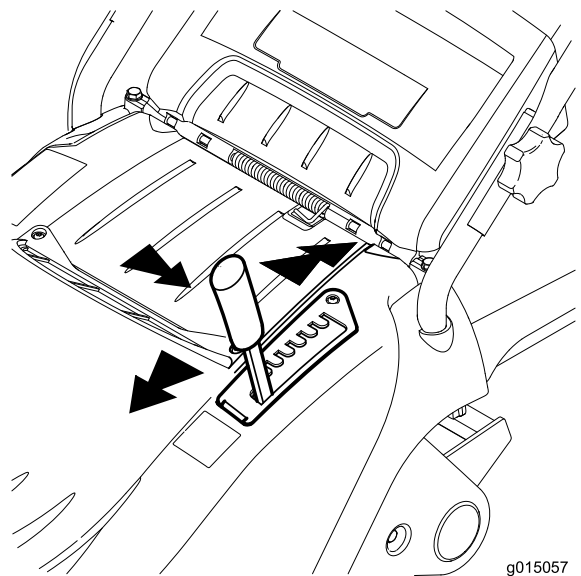

Figure 13
2. Pull the height-of-cut lever out of its position slot, and move it forward or rearward, and allow it to go into the desired slot (Figure 13).